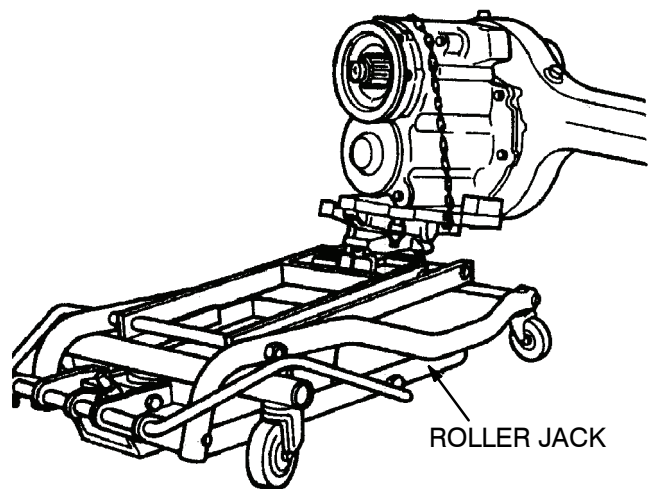

Figure 103.
- (7) Install the carrier into the axle housing. Use a hydraulic roller-jack or a lifting tool. Figure 103.